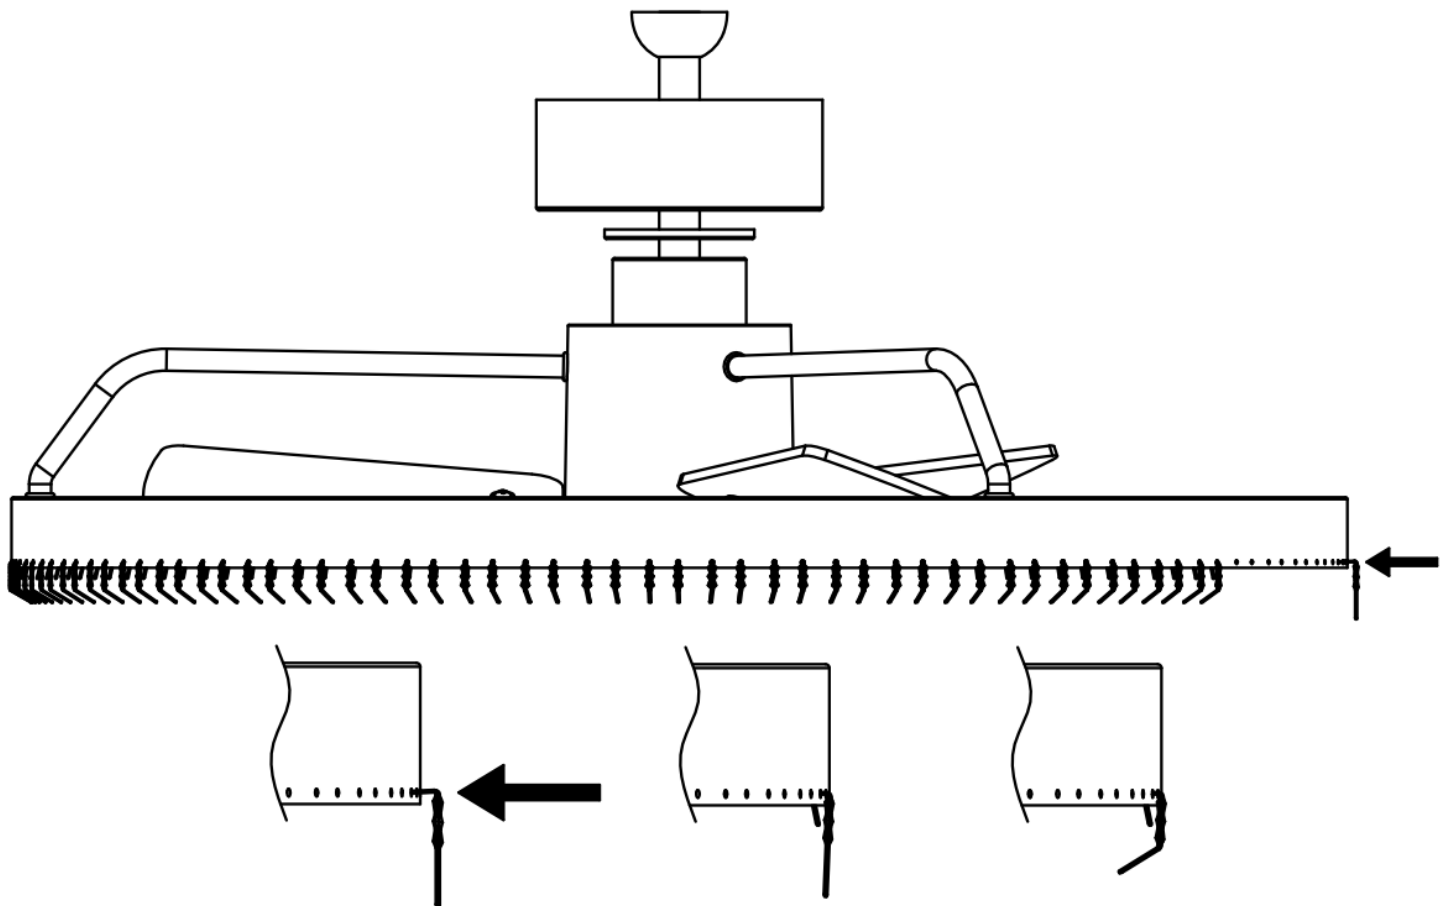

Fig. 6
2. Install the hooks onto the fan assembly. (Fig.6)